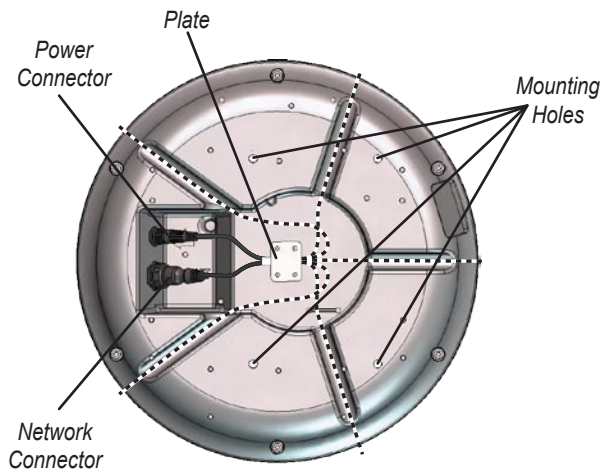
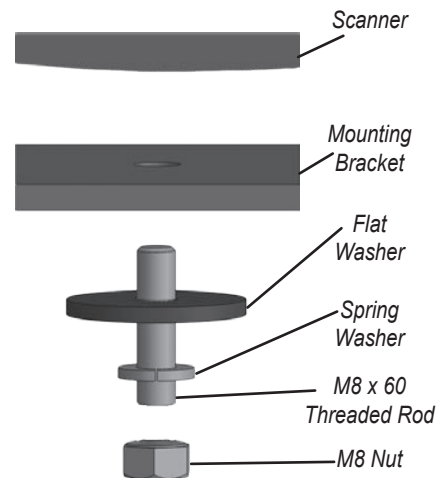

Figure 2
Figure 3
2. Align the notch and locking ring on the power cable to the power connector. Press the 2-pin power cable to the power connector and the RJ-45 marine network cable to the RJ-45 socket (Figure 2). Turn the power cable locking ring clockwise until it stops. Tighten the RJ-45 locking ring clockwise until it is firmly sealed.
3. The power/network cable may be pressed into one of the five guide grooves molded into the bottom of the scanner case and secured under the cable hold-down plate (Figure 2). Avoid excessive bending or twisting of the cable. See the following "Cable Runs" section for more information.
5. Install the four (4) M8 x 1.25 x 60 threaded rods into the Mounting Holes on the bottom of the scanner. There should be no more than 50 mm (2") extruding from the scanner when they are installed properly.
6. Fasten the scanner to the mounting surface using the M8 x 1.25 x 60 threaded rods (installed in the previous step), spring washers, flat washers, and M8 Hex nuts as shown in Figure 3. **The nuts should be torqued to between 13.7-18.6 Nm (10-14 lb ft).**